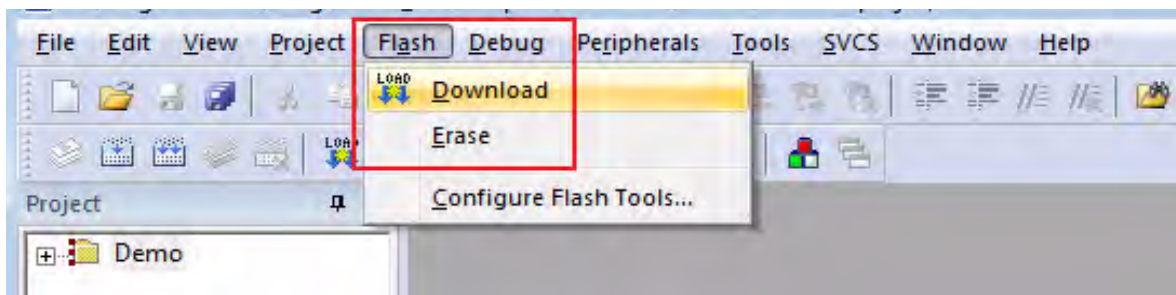

Figure 40. The Keil IDE Flash Menu
5. From the **Flash** menu of the Keil IDE (see Figure 40), select either of the following options: